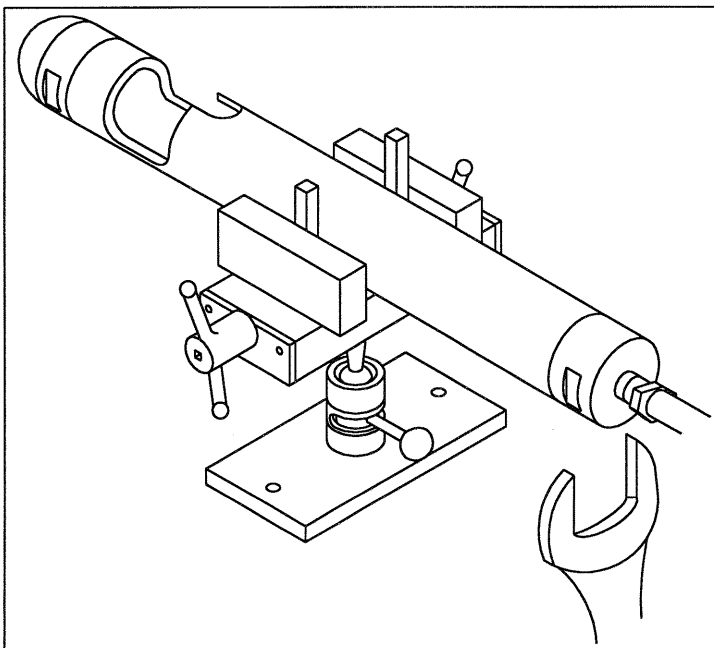

FIGURE 8
2. Remove cap as shown in Figure 8.
Remove cap by clamping housing in a vise as shown in figure 8. Notice $3/8$ " square bars used to prevent damage and rotation. Use standard $2-1/4$ " open end wrench and turn cap counterclockwise to loosen.